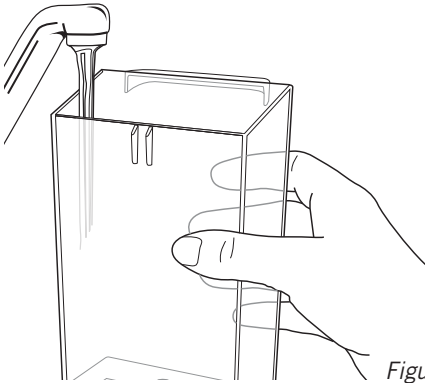

Figure 1
1. Remove water tank from the back of the machine and fill with fresh water. Replace water tank. See figure 1.